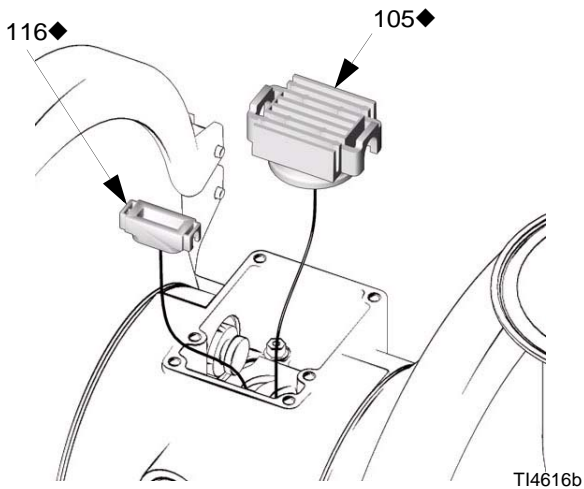

FIG. 11
- Grease the lower face of the pilot block (116) and install so its tabs snap into the grooves on the ends of the pilot pins (114). See FIG. 11.
- Grease the lower face of the valve carriage (105). See FIG. 11.
- Install the valve carriage (105) so its tabs slip into the grooves on the narrow end of the actuator pistons (111). See FIG. 11.